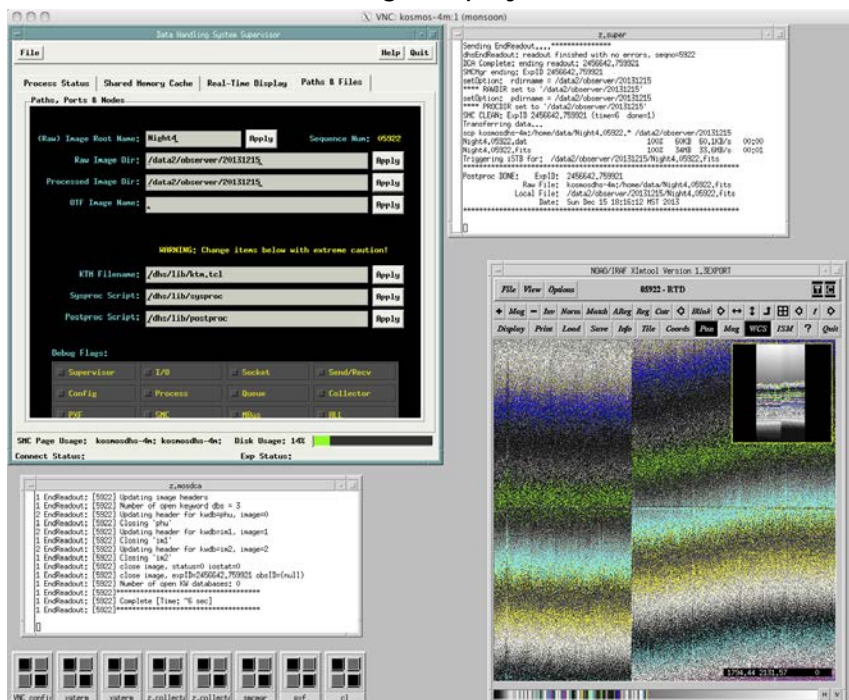

Figure 22: The VNC DHS window where images are displayed and where observers can select the Image Root Name (file prefix).
- In the DHS VNC monitor (see Fig. 22), check that an image processed to disk.